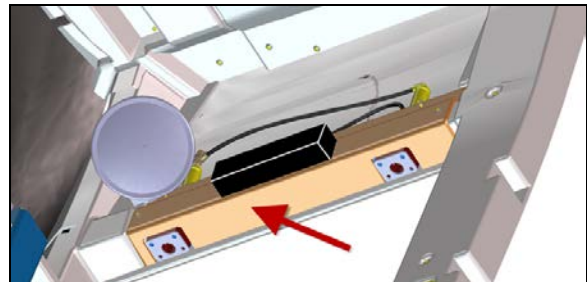

Figure 20
34. Remove entrance door upper moulding (Figure 20). This part will be replaced by the new moulding #3210118. Keep screws for the installation of the new moulding.